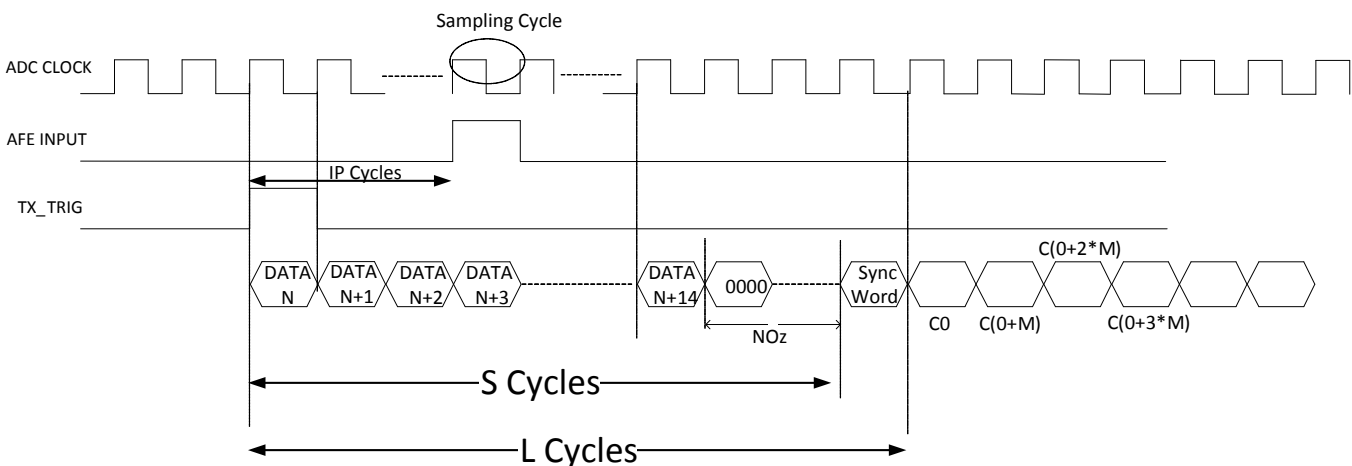

Figure 74. Measured Latency Timing at any M
A generic timing diagram is shown below. Here number of zeros comes before sync word is equals to Z. Sync word comes after S number of cycles, impulse response starts coming after L number of cycles, and input impulse is given after IP cycles with respect to TX_TRIG signal. Therefore for different decimation factor (M), values of these numbers are listed down in Table 23 and Figure 74.